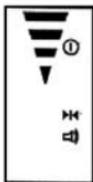

Fig. 8
- If the LCD shows a “down” arrow and emits rapid short sounds, this indicates that the laser level signal is located below the detector (Fig. 8).